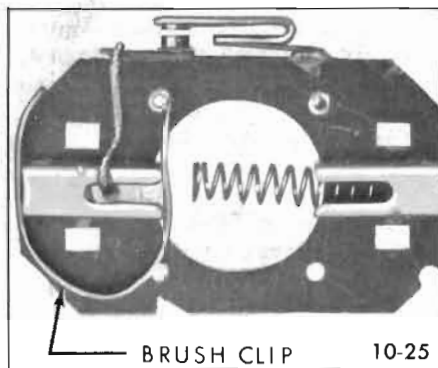

Figure 10-25—Partially Assembled Brush Plate
5. Position the partially assembled brush plate, Figure 10-25, over the armature shaft far enough to allow re-assembly of the remaining brush in its brush holder; then position the brush plate assembly on the mounting tabs in the position shown in Figure 10-25.